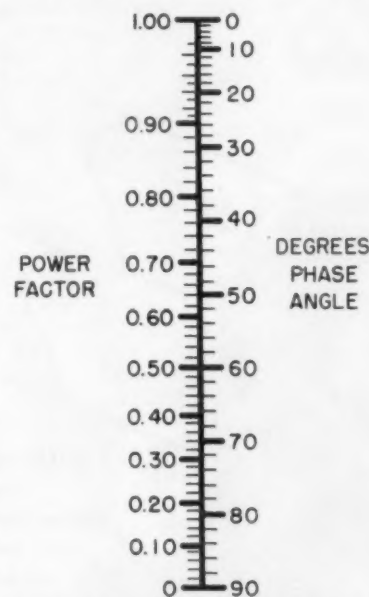
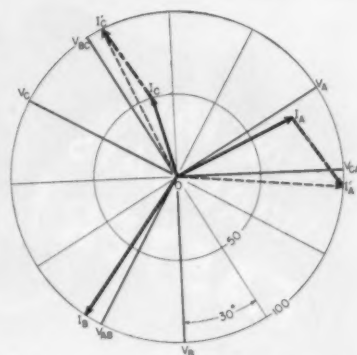

FIG. 4. Conversion nomogram for relating power factor to degrees of phase angle correction.
FIG. 5. Graphical construction shows how to add a single phase line to load to balance any 3-phase 3-wire unbalanced load current system.
To balance the system, a single phase load must be added across two lines. Determination of the amps and pf of this load and the two proper lines is shown in Fig. 5. The three measured line currents, identified in direct phase sequence A-B-C, are drawn on a polar coordinate plot at their respective power factor angle degrees away from their phase voltages V_A , V_B and V_C and with radial lengths equal to their amps. For convenience, pf may be converted into degrees by using a nomogram similar to Fig. 4. A lagging angle is taken clockwise from its voltage while a leading angle is taken counterclockwise.
1. Take the pf angle of the largest current, (I_B in Fig. 5), and measure off this angle from each of the remaining 2-phase voltages (V_A , V_C).
is 52 amps at 0.55 lagging power factor. This load, of course, is ideal and practically there will seldom be a load of just this magnitude and pf to apply. It does, however, indicate the desired load and may be approximated when adding new loads. In Fig. 5, balancing increases the kw capacity 25%, while capacitor correction to 0.90 pf increases this gain to 34%.
The Fig. 5 diagram may be used to find the result of adding any load simply by drawing it in from the center at the known amps length and pf angle from the voltage across which it is to be applied. This added load current is combined with the original line current by graphically completing the parallelogram of which these two currents are adjacent sides. The diagonal of the resulting parallelogram from the center of the plot provides
the amps and phase angle of the total current in this line. If the added load is single phase, an equal and opposite line, such as $I_c I'_c$ in Fig. 5, must also be drawn and combined with the second of the two phases across which the load is applied. In the case of adding a 3-phase load, three current lines will have to be added, each at the load pf angle from its respective phase voltage $V_A V_B$ and V_C .
When the unbalanced system is 3-phase 4-wire, there is generally a current in the neutral wire. This neutral current must be eliminated in order to reduce the system to a 3-phase 3-wire equivalent which is treated from there on as already discussed in connection with Fig. 5. To eliminate this neutral current the Fig. 6 construction is used.
The neutral current is thereby cancelled. This added load, $-I_N$, transforms line A current to I'_A by the parallelogram construction of addition shown. The line currents I'_A , I_B and I_C are now an equivalent 3-phase 3-wire system whose balancing line-to-line load is determined using the procedure followed for Fig. 5.